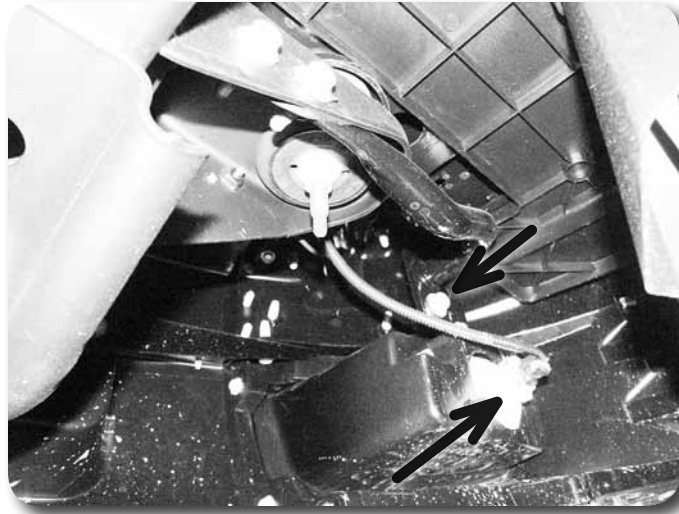
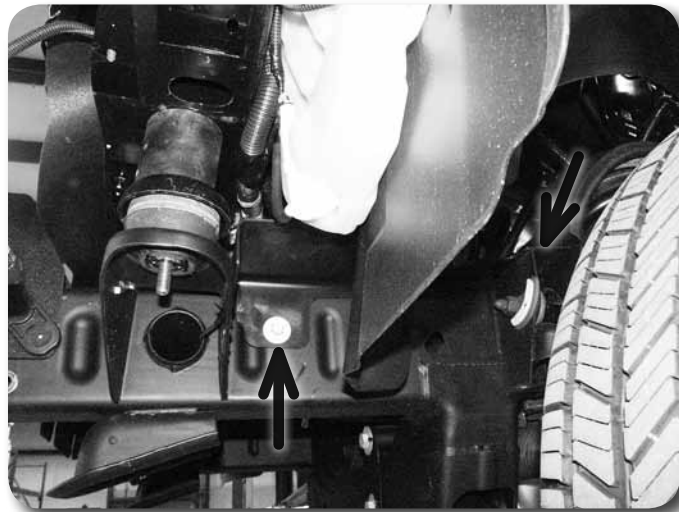

Figure 3
Figure 4
3. Disconnect the fog light wiring connectors from the fog lights **Figure 3**.
4. Disconnect the outer bumper supports from the bumper **Figure 3**. Save bolts. If equipped, remove the small plastic shroud from the driver's side frame rail **Figure 4** that is positioned directly behind the front body mount. This shroud will be modified before reinstalling later in the installation